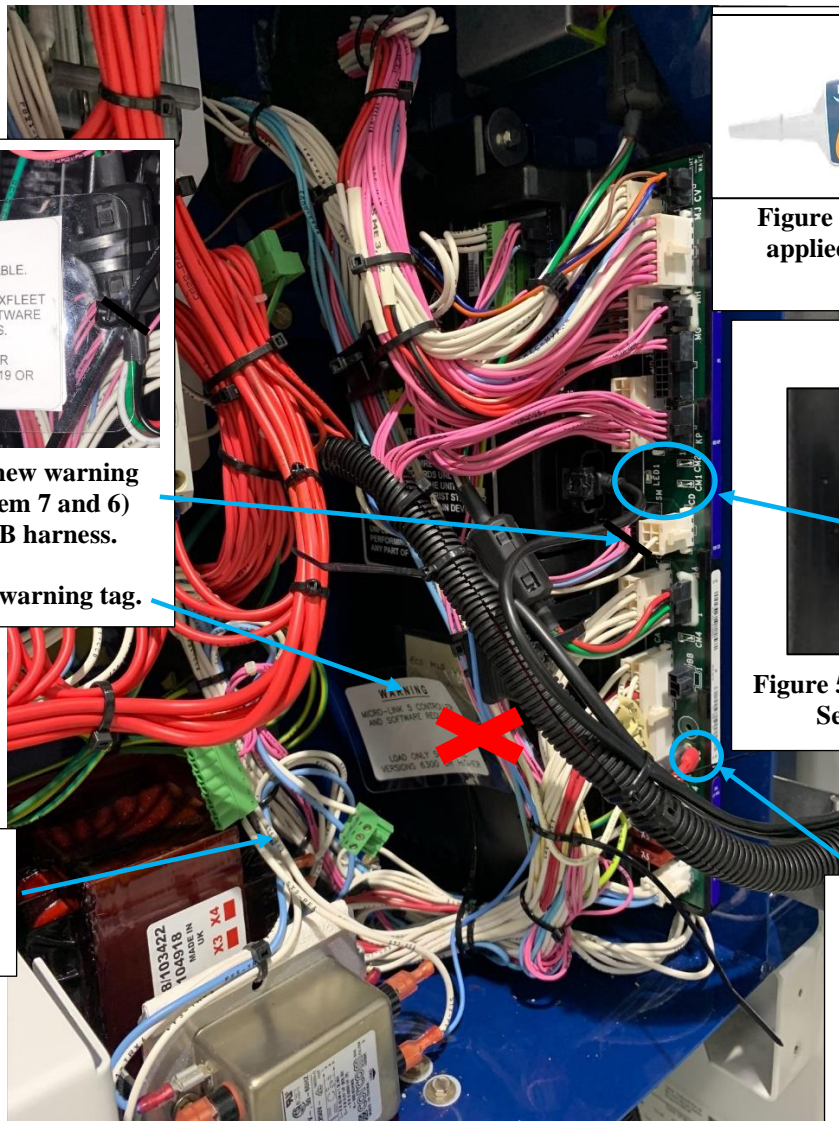

**Figure 5d: Add new warning tag and label (item 7 and 6) here on the USB harness.**
11. Locate the existing software tag and remove it from the unit. See figure 5d.
12. Take the clear plastic tag (item 7) and apply new label (item 6). See figure 5d.
13. Secure tag to the USB cable near the controller using wire tie. See figure 5d.